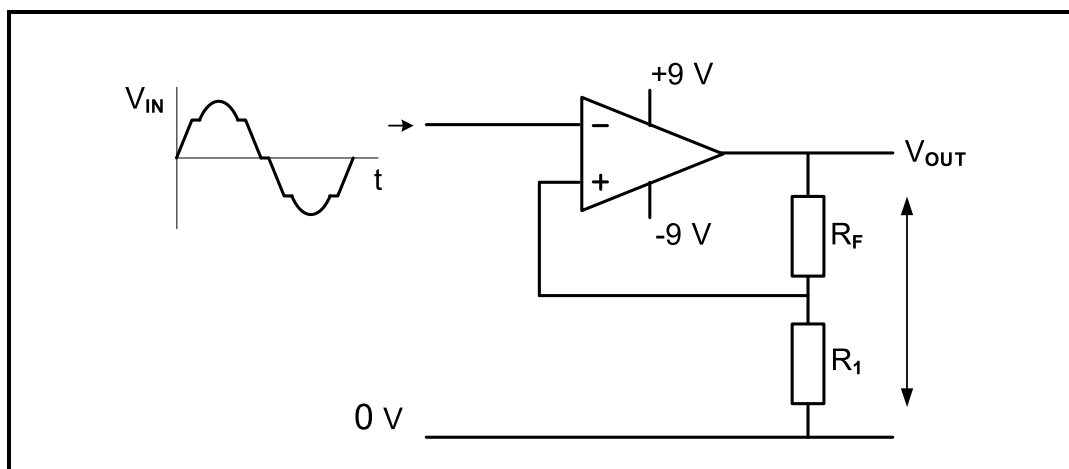

FIGURE 5.5: INVERTING SCHMITT TRIGGER
- 5.5 FIGURE 5.5 below shows the basic circuit diagram of a Schmitt trigger. Answer the questions that follow.
- 5.5.2 Draw the output signal for the circuit in FIGURE 5.5 above on the ANSWER SHEET for QUESTION 5.5.2. (4)